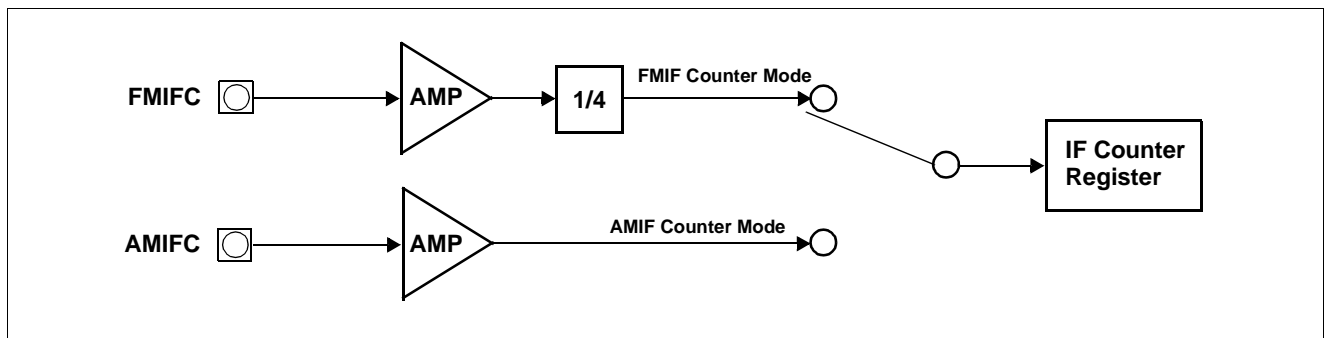

Figure 4-32 Input Pin and Mode Selection Block Diagram
(1) Select an input pin, mode and gate time using the IF counter mode register. Figure 4-32 shows a block that selects an input pin and mode.
(2) Set IFCCLR bit of the IF counter mode register to 1, and clears the data of the IF counter register.
(3) Set IFCST of the IF counter mode register to 1.
(4) The gate is opened only for the set gate time since 1KHz internal signal has risen after IFCST was set. If the gate time is set to be opened, the gate is opened as soon as it has been specified to be opened. IFCJR of the IF counter gate judge register is automatically set to 1 as soon as IFCST has been set to 1. When the